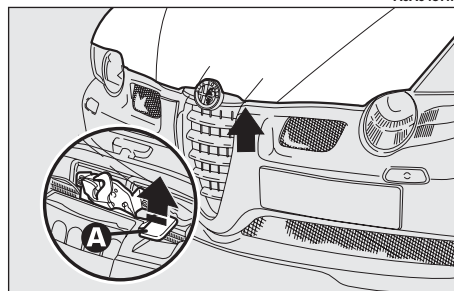

fig. 132
- press the safety lever (**A-fig. 132**) upwards.